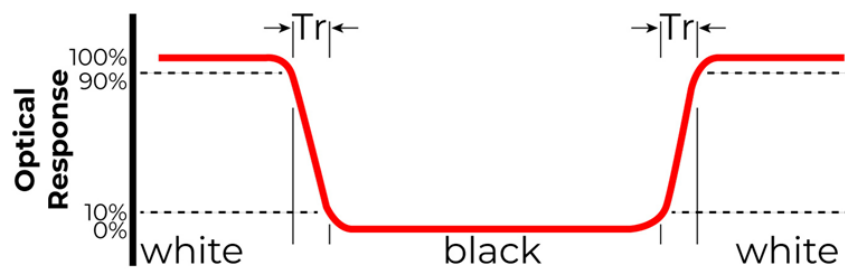

Figure 2. The definition of response time
| Response Time           | Tr+Tf             | $\theta=0^\circ$$\phi=0^\circ$$T_a=25^\circ\text{C}$ | -    | 25   | 35   | ms                | FIG 2. | 4    |
**Note 4.** Response time is the time required for the display to transition from white to black (Rise Time, Tr) and from black to white (Decay Time, Tf). For additional information see Figure 2. The test equipment is BM-7A.